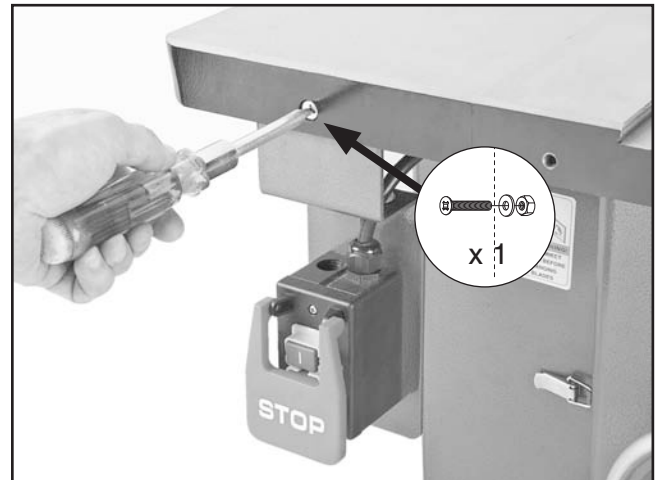

Figure 16. Installing switch.
- Attach the switch to the extension wing with (1) $\frac{5}{16}$ "-18 x $\frac{3}{4}$ " flat head screw in front, as shown in **Figure 16**, and (1) $\frac{5}{16}$ " flat washer and (1) $\frac{5}{16}$ " hex nut in back.